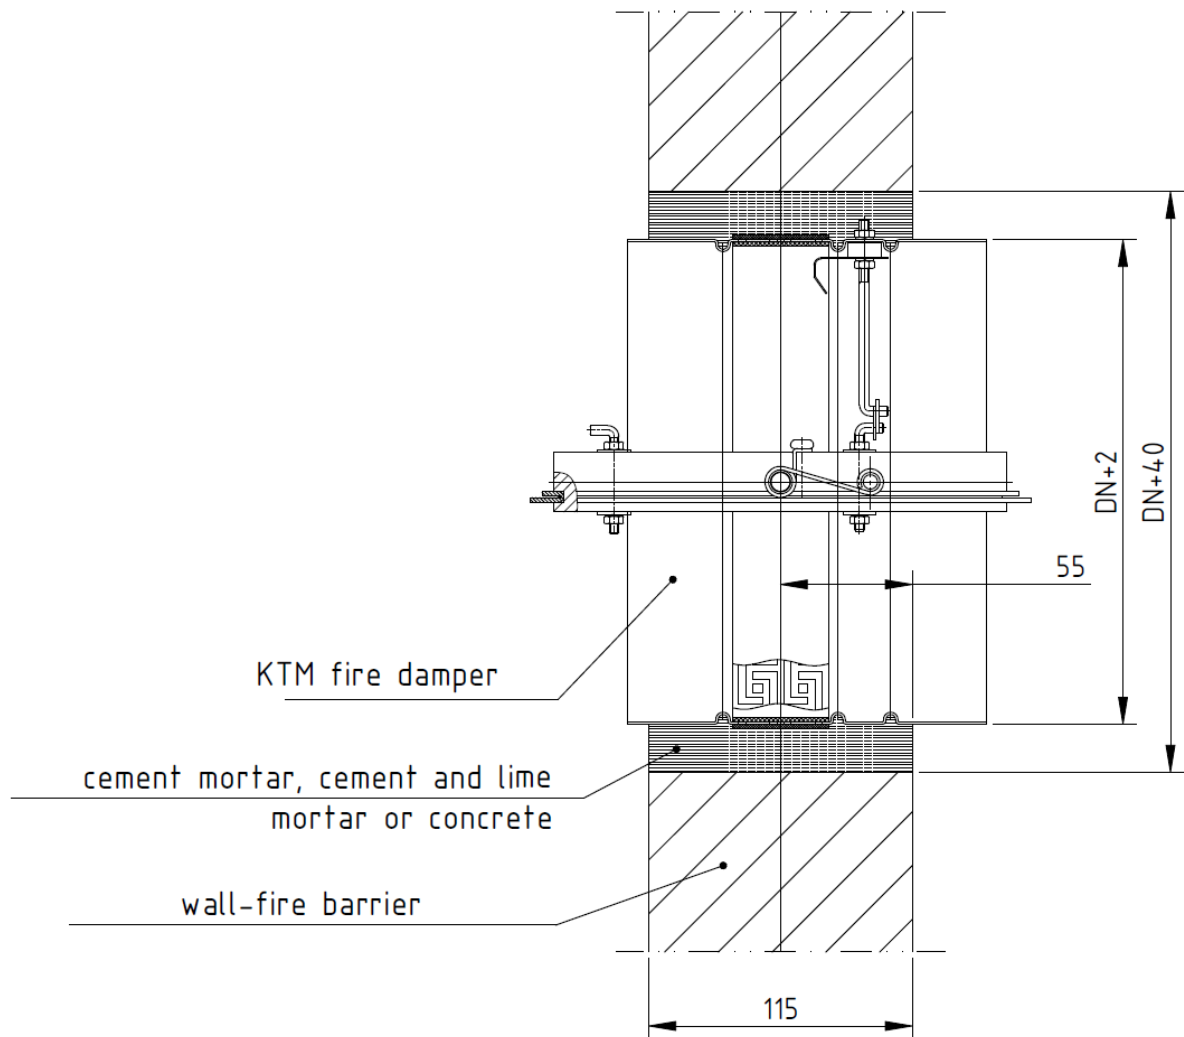

Figure 2. Installation of KTM fire damper (female coupling) in rigid wall barrier
according to figure 2, 3 and 4
2. Put the fire damper into the installation opening, suspend or support it in such way that damper blade axis is in the distance of not less than 55 mm from both wall surfaces (see fig. 2 and 3).